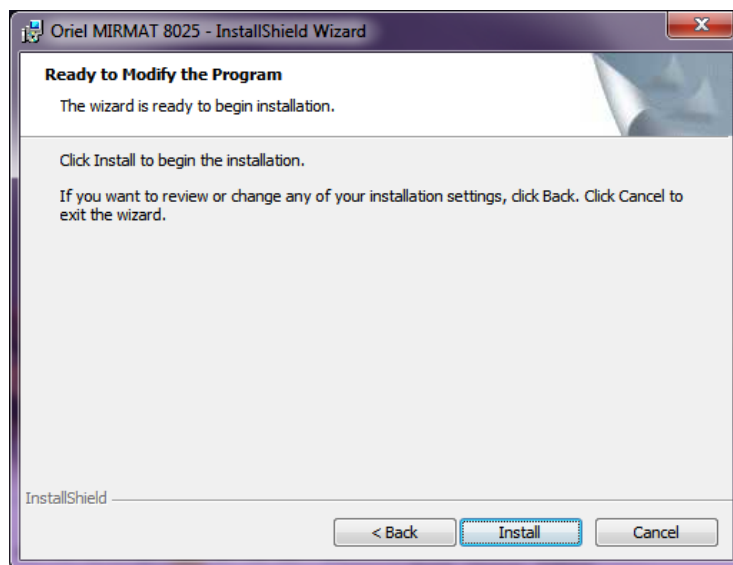

Figure 25: Run MIRMat Installer
20. Click “Next” to begin the installation process, as shown in Figure 25.